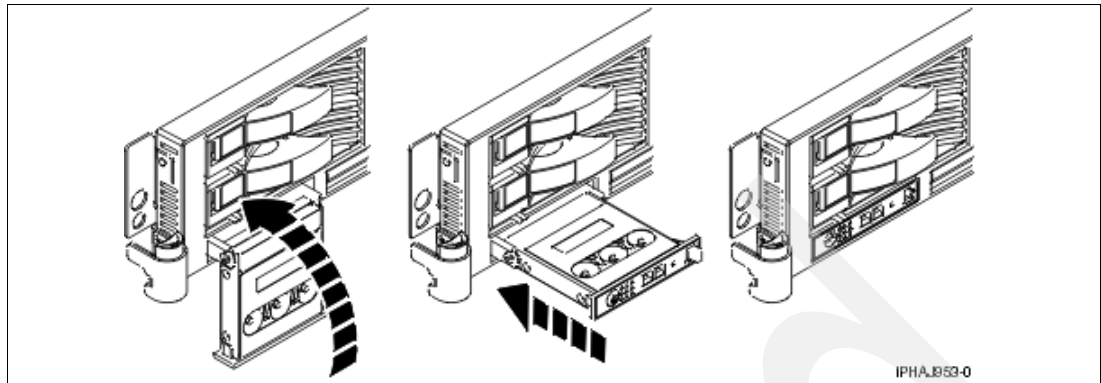

Figure 2-20 Restoring the control panel
3. To move the control panel back into the device enclosure, lift the control panel up to align it with the opening and push it into place until you feel the tab lock. Figure 2-20 on page 60 shows this in more detail.